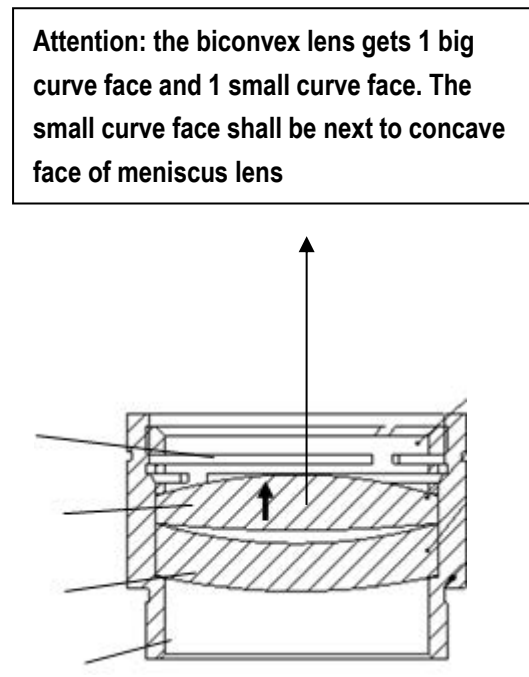

Figure 11 Installation of collimation lens
- As shown in Figure 11, reassemble the collimation lens assembly, pay attention to screw the pressing ring properly, and re-screw it into the collimator;